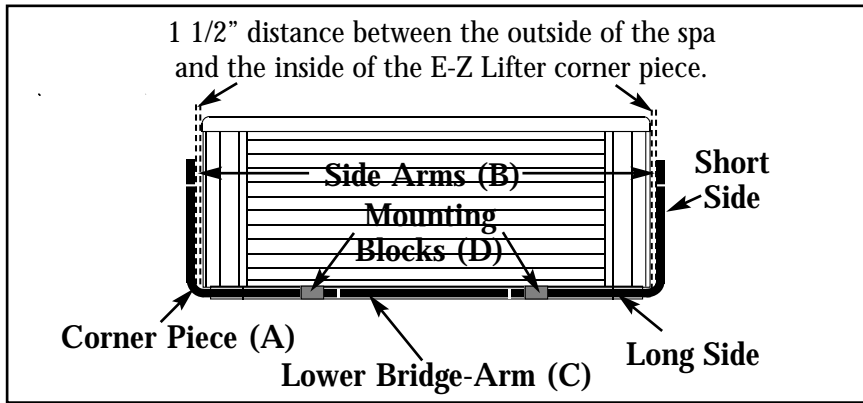

FIGURE 2
- 2) Slide the 2 mounting blocks (D) on the 2 long sides of the corner pieces (A) at the bottom (or base) of the spa. Then slide the lower bridge (long) arm (C) into the 2 long sides of the 2 corner pieces. The E-Z Lifter shape should now be an open rectangle or square with 3 sides and have 2 mounting blocks at its base.
- 3) Insert the 2 side (short) arm pieces (B) into the short ends of the corner pieces (A) with the holes facing up (see Figure 2).